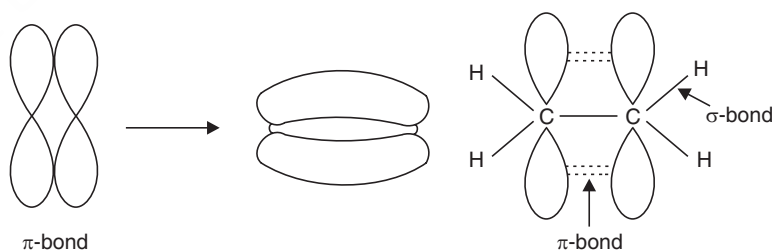

Fig. 2.10 Ethylene molecule.
Lateral overlapping of the two 2p orbitals of two C-atoms leads to the formation of a weak bond known as π -bond (See Fig. 2.10).
- Four sigma bonds are formed due to overlapping of sp²-s orbitals and one out of sp²-sp² overlapping. Residual 2p orbitals of each sp² hybridised C-atom overlap laterally to form a π -bond (Fig. 2.10).